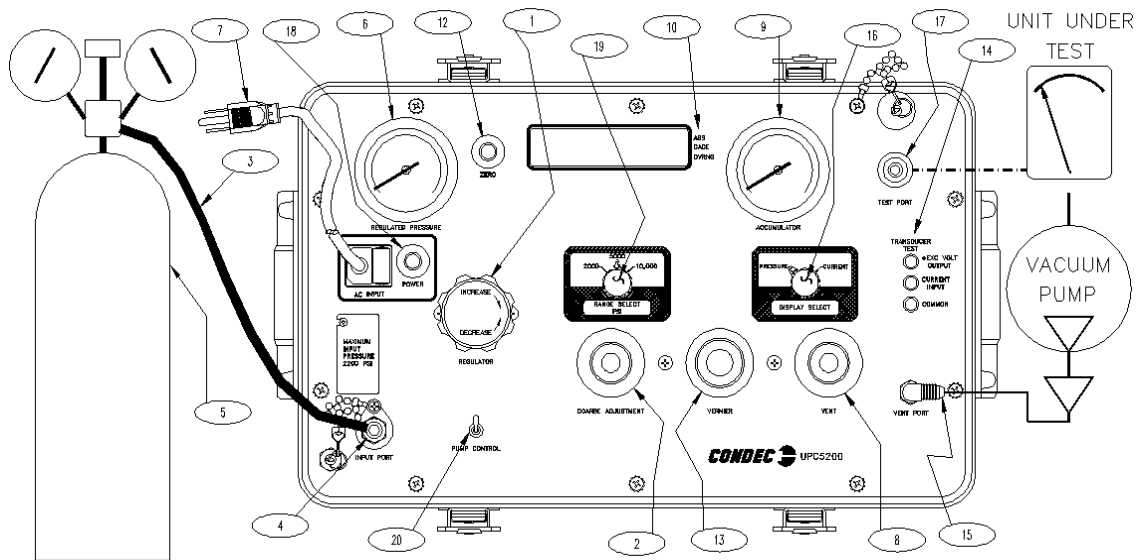

Figure 2-3. Pressure Measurement Sequence (Absolute Only)
NOTE: See Figure 2-3 on page 8, when following these steps.
- 2.6. To obtain exact pressure readings, slowly rotate the VERNIER control (13) knob in the direction required (clockwise to increase pressure) as indicated by the electronic numerical display.
3. If pressure measurements below atmospheric pressure are required, connect a vacuum pump to the VENT/VACUUM port (15) as shown in Figure 2-3 on page 8.